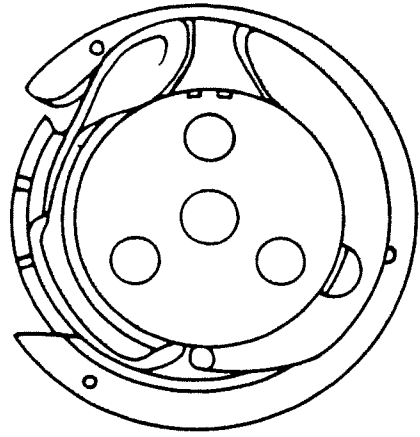

Fig. 37a
- Remove the bobbin case base with sewing hook gib (fig. 37a).